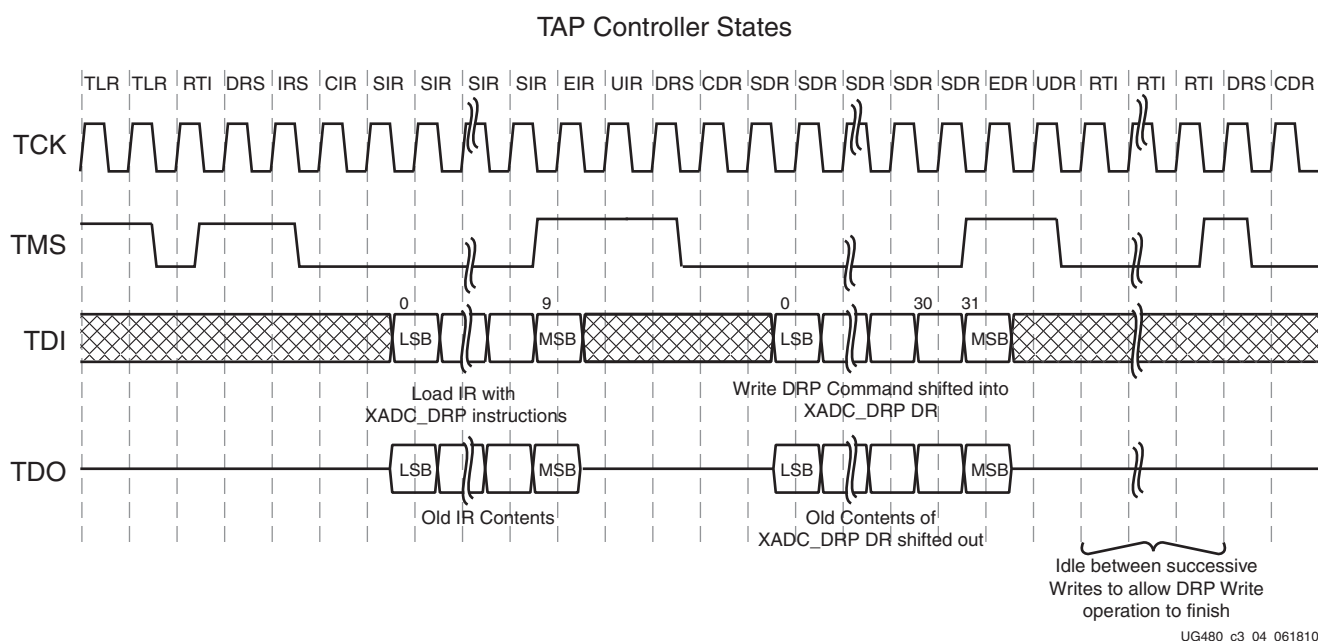

Figure 3-5: XADC JTAG DRP Write
Figure 3-5 shows a timing diagram for a write operation to the XADC DRP through the JTAG TAP. The DRP is accessed through the XADC data register (XADC DR). Before the XADC DR is accessed, the instruction register (IR) must first be loaded with the XADC instruction. The controller is placed in the IR-scan mode, and the XADC instruction is shifted to the IR.
If multiple writes to the XADC DR are taking place, it might be necessary to idle the TAP controller for several TCK cycles before advancing to the next write operation (see Figure 3-5). The idle cycles allow the arbitrator to complete the write operation to the XADC DRP register. If DCLK is running approximately  $6 \times \text{TCK}$ , these idle states are not necessary. However, inserting 10 or so idle states ensures all transfers are inherently safe.